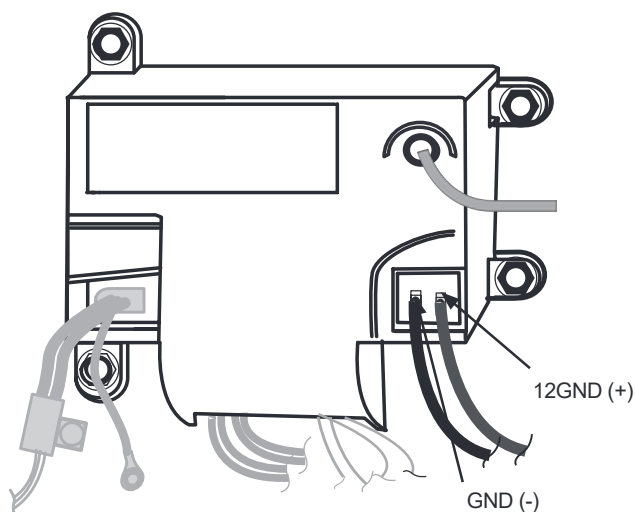

Figure 6-1. —DC power connections and polarity.
- a. + 12 volt DC (positive) is to be connected to power board terminal **12VDC**. See Figure 6-1.
- b. – 12 volt DC (negative) needs to be connected to power board terminal **GND**. See Figure 6-1.